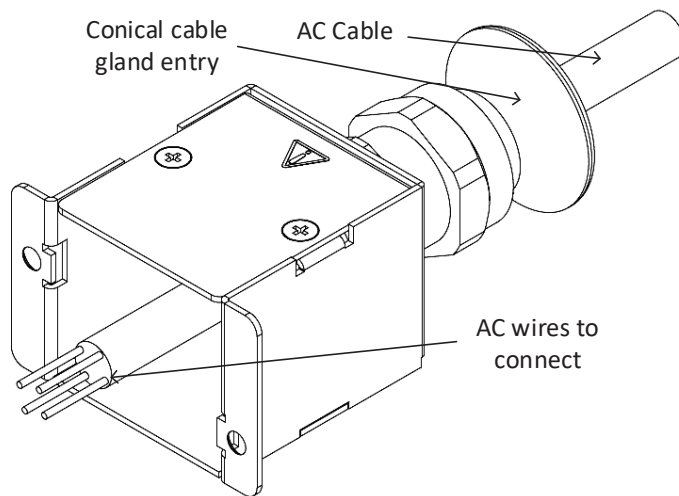

Figure 4-23: Stripped Wires Inserted Through
5. Insert the AC cable through the conic cable gland entry and the strain relief bracket as shown in Figure 4-23 (4-wires are shown for 3-Phase, it applies to 3-wires for 1-Phase as well).